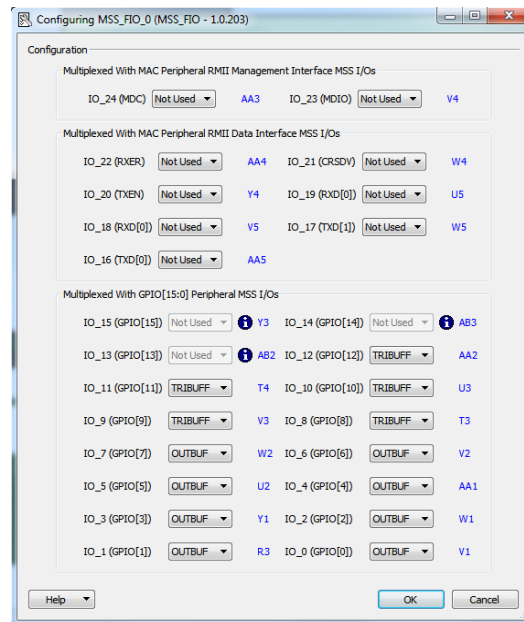

**Figure 21 • MSS Configurator With Added Signal**
8. The MSS configurator appears as shown in Figure 21. You can observe the added signal MPM\_Channel\_7\_DMPM\_DB\_APOL3\_1P5V.